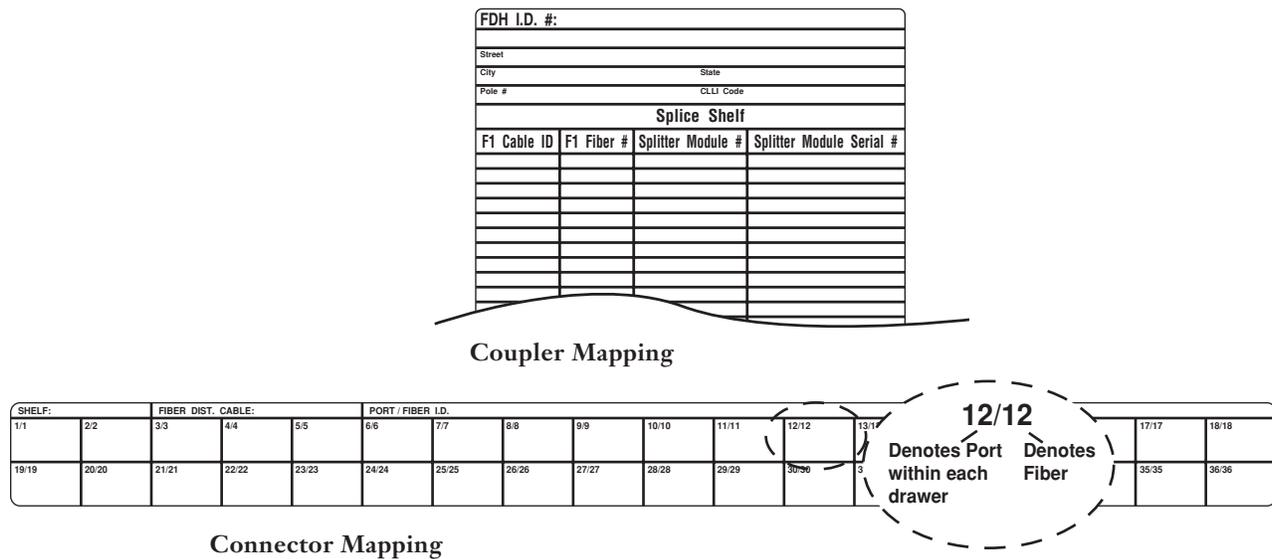

Figure 7 — Connector Mapping Labels
Step 10 Route the coupler output fiber slack through the organizer and to the right around the slack storage hubs as shown in Figure 7. Place the slack around the furthest hub to the left that it will reach without pulling on the connector in the shelf, the coupler module, or the fiber itself.